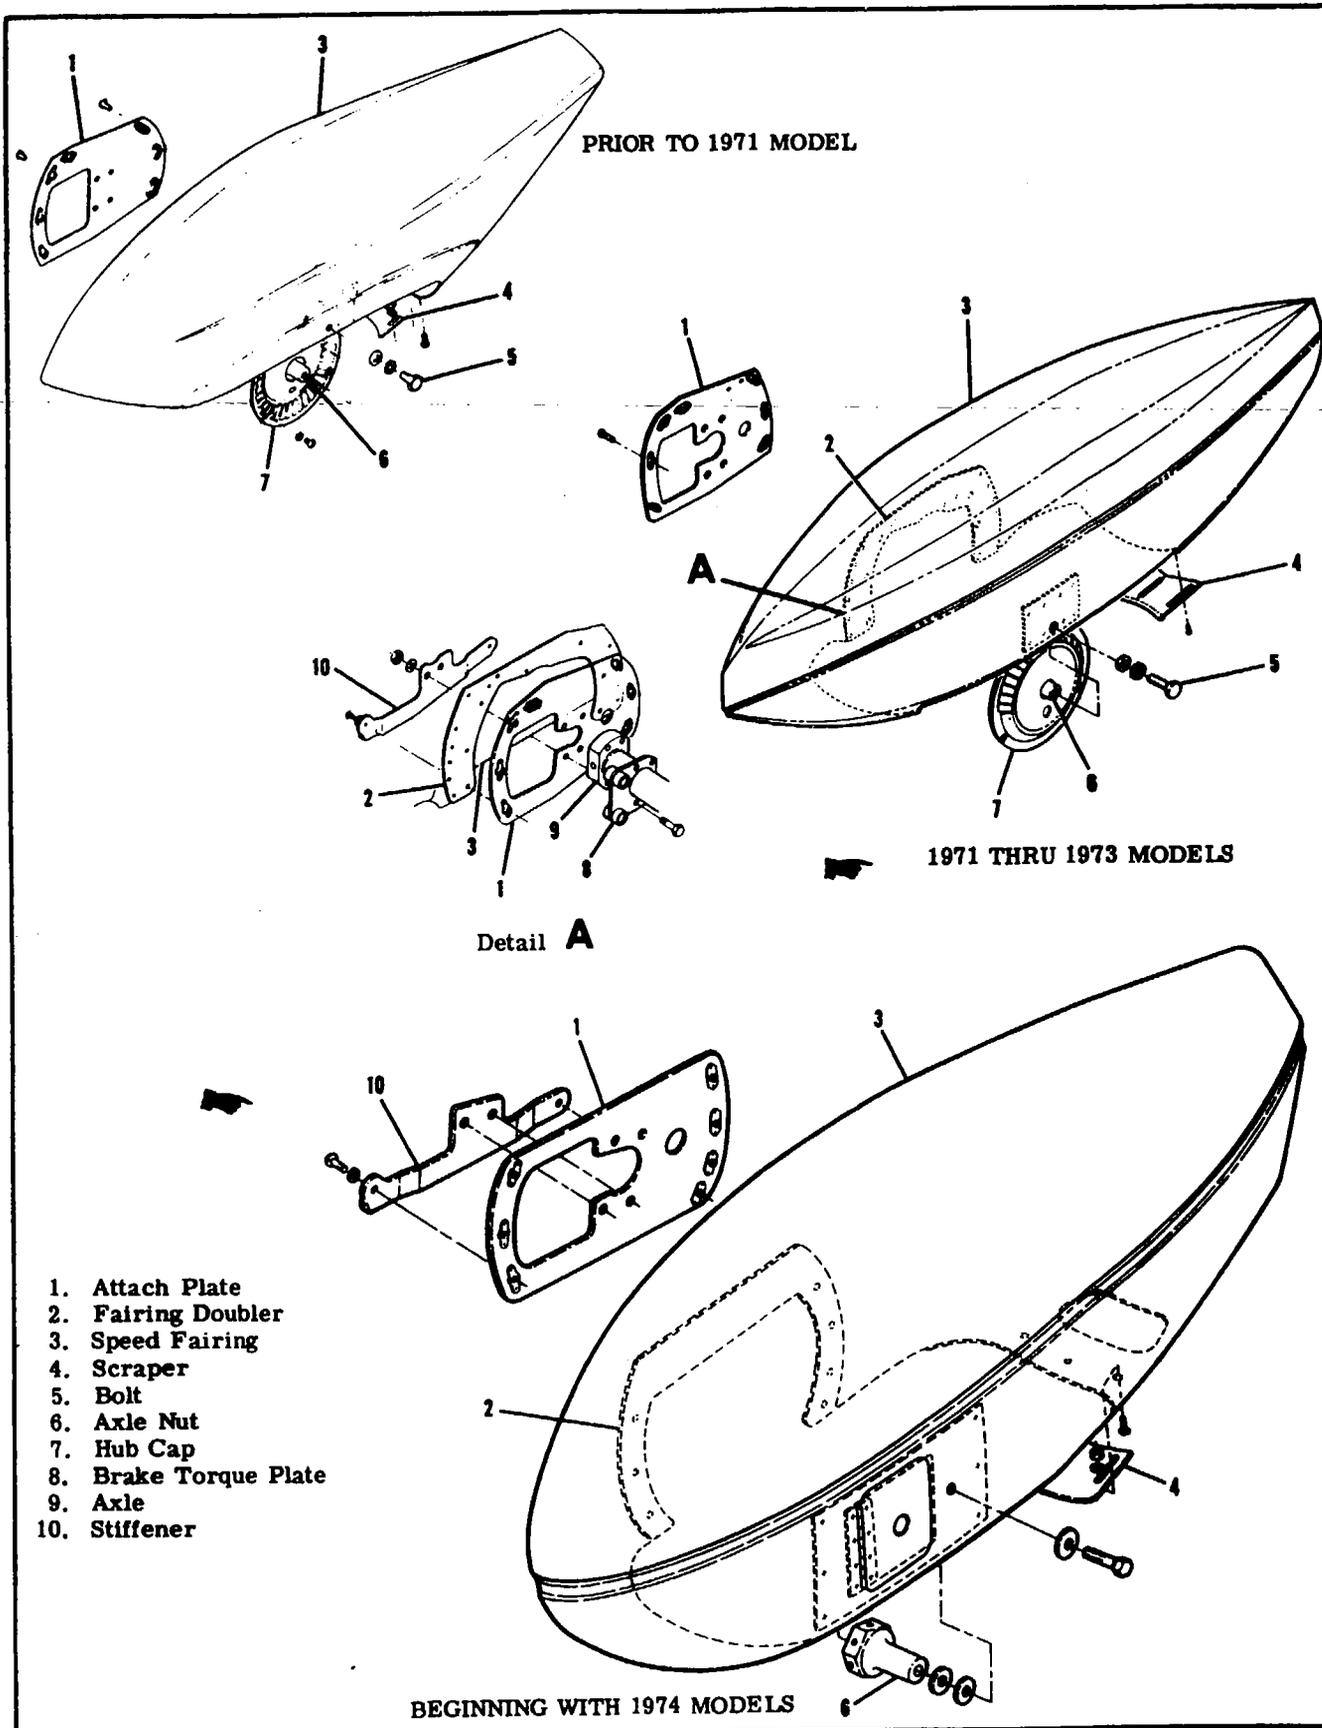

Figure 5-2. Main Wheel Speed Fairing
- 5-10. MAIN WHEEL SPEED FAIRING REMOVAL AND INSTALLATION. (Refer to figure 5-2.)